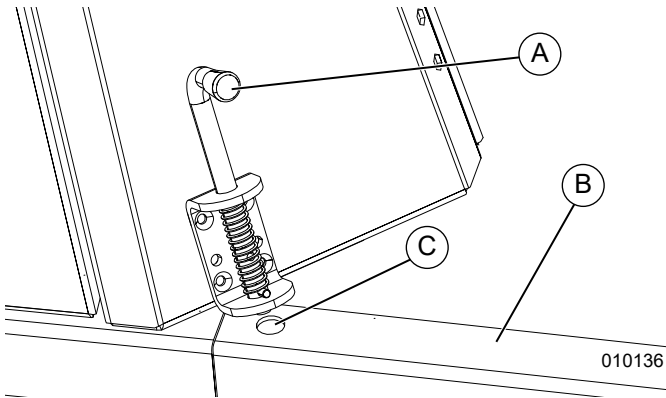

Figure 3-1. Setting up Stabilizers (1 of 2)
- See **Figure 3-1**. Pull locking pins (A) on the four outriggers (B) and pull each out outrigger until the locking pin snaps into stabilizer hole (C).